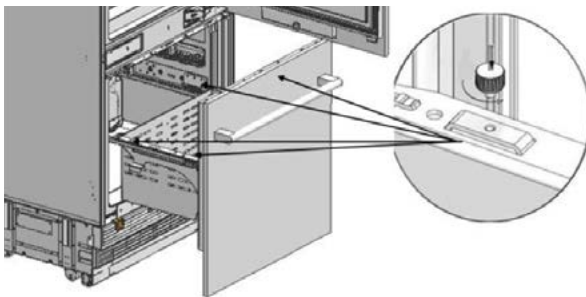

Figure 1
- Remove the four thumb screws (see *Figure 1*) and place them in a safe place. Carefully lift the front of the drawer and then the rear to remove (see *Figure 2*).